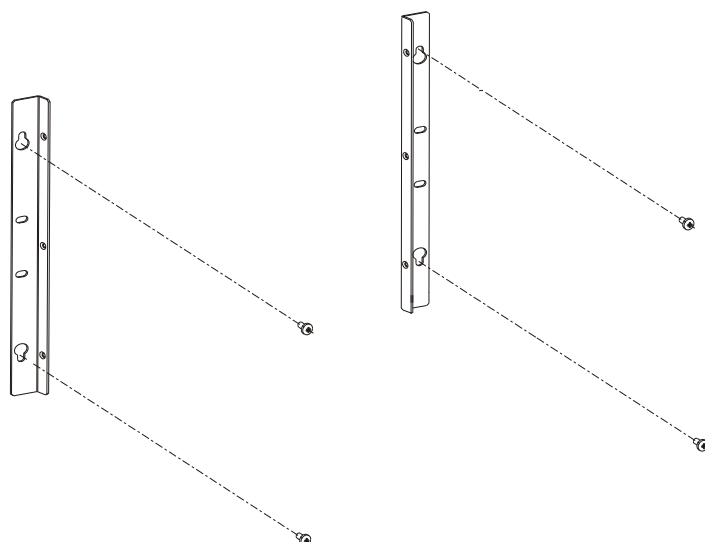

Figure 2-11 19" Frame Metal Back Bracket Installation
- 3) Using two M5 screws (not supplied), secure the rectangular wall mounting bracket (07013022001 from kit FHN7419A) to the wall, as shown in Figure 2-11. Repeat for the second bracket.